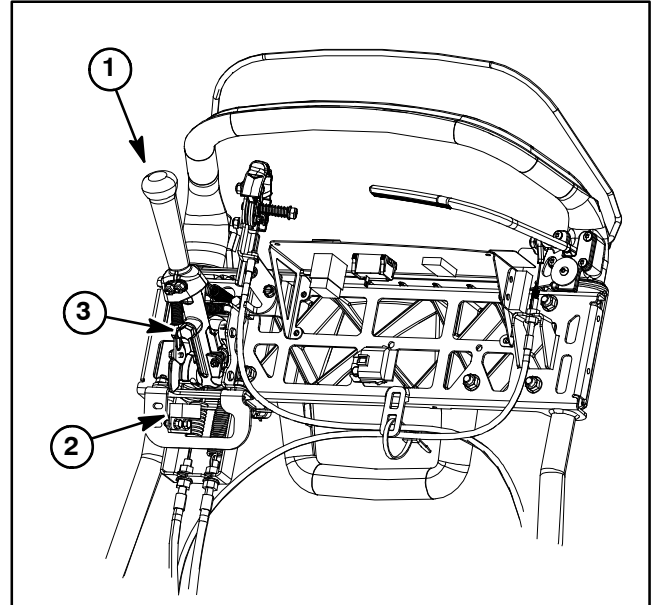

Figure 11
4. With the traction drive engaged, there should be from 0.030" to 0.090" (0.8 to 2.3 mm) clearance between the head of the cap screw in the traction lever and the traction switch (Fig. 11).